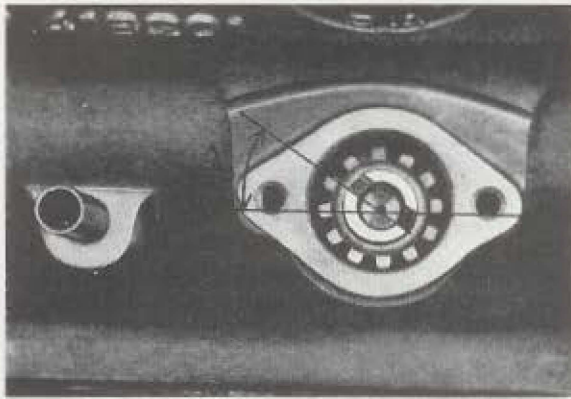

Fig. 21-46. Location of distributor pinion
6. Install the distributor pinion. When the engine is at top dead centre and firing on No. 1 cylinder, install the pinion for the oil pump and distributor. The small end of the groove is faced obliquely upwards-backwards and the groove is set at an angle of about 35° to the longitudinal direction of the engine (see A, Fig. 21-46). Make sure that the shaft goes down into its groove in the pump shaft. (NOTE! When the marking on the timing gears are opposite each other then the No. 6 piston is at top dead centre, firing position.)